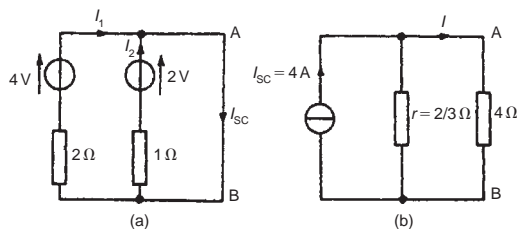

Figure 15.57
- (i) The 4Ω branch is short-circuited as shown in Fig. 15.57(a)
- (ii) From Fig. 15.57(a),
- (iv) From the Norton equivalent network shown in Fig. 15.57(b) the current in the 4Ω resistance is given by: